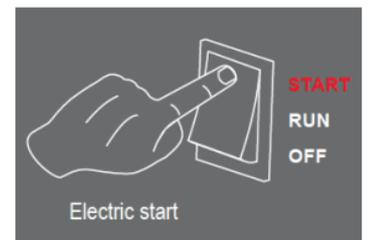

Figure 8: Electric Start
6. Push and hold the engine start push button for 1 second and release (see Figure 8). The engine will automatically set the choke and begin the start sequence.